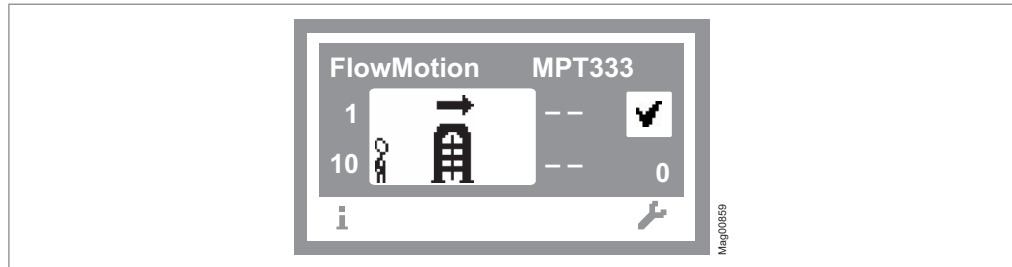

Fig. 2: Example "Operational view"
11. Press the left button «» repeatedly until the operating view is displayed again. Page 13, Fig. 2.